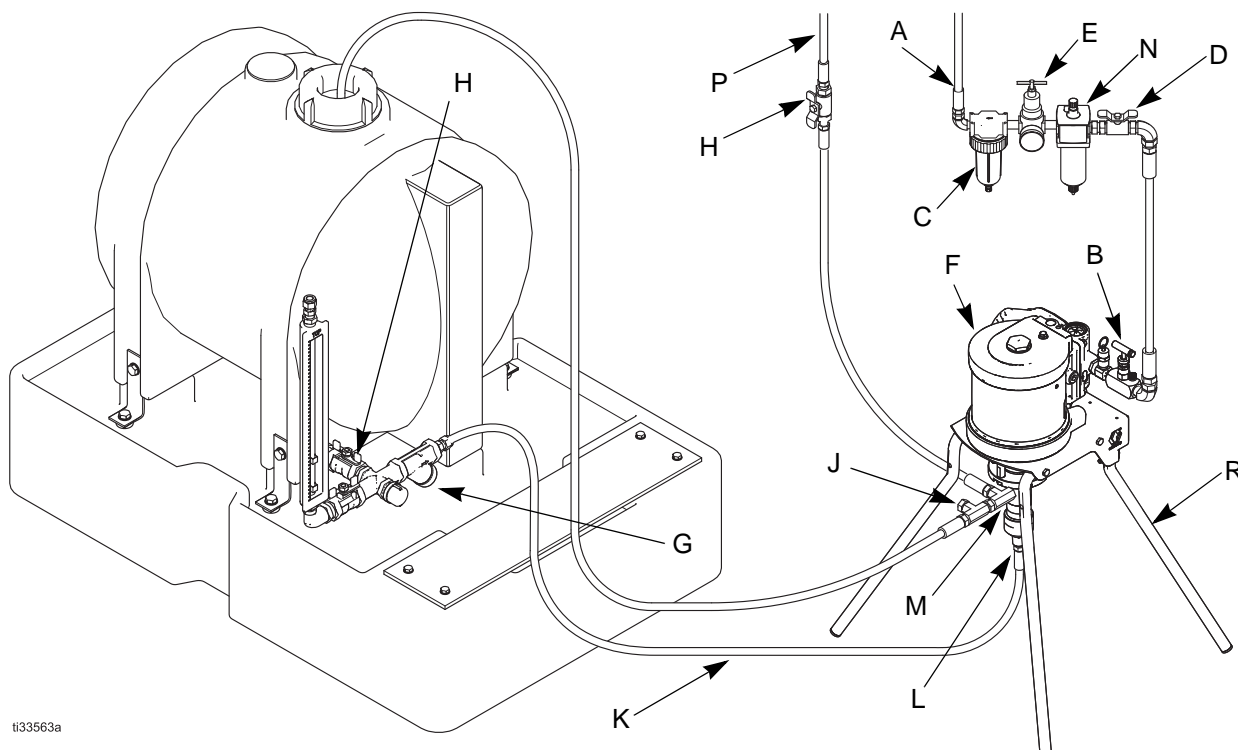

FIG. 1: Typical Installation
Install the following required accessories in the order shown in FIG. 1, using adapters as necessary.
FIG. 1 is an example of an installation with a Python XL-DA chemical injection pump. Your installation may differ from what is shown here. (See **Required Accessories**, page 8.) The Python pump (F) and needle valve (B) are the only components in FIG. 1 supplied by Graco. All other components are supplied by customer.
If you have an application, or mounting configuration, that requires installation in a manner different than depicted in FIG. 1, please contact your Graco distributor for assistance.